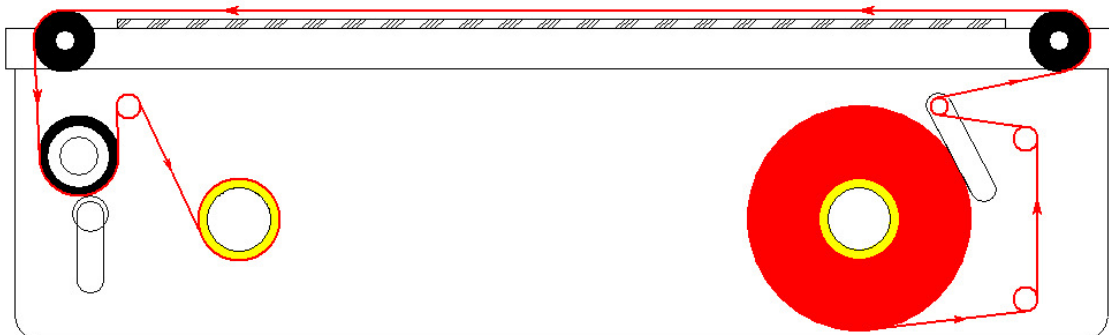

Figure 3
1. Refer to the foil threading diagram (figure 3).